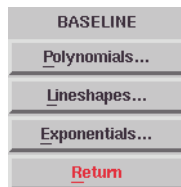

Figure 6-48 The BASELINE menu.
3. **Select a BASELINE fitting function.** In the BASELINE menu, there are three types of fitting functions: Polynomials, Lineshapes, and Exponentials. (See Figure 6-48.) Click Lineshapes for this example and the Lineshape Fit menu will replace the current menu.